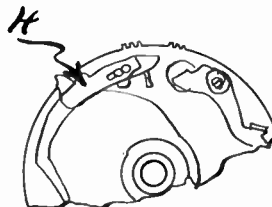

Figure F7.
3. **Trip:** Turn screw in hole X (figure F7) until changer trips. Seal threads to prevent movement.